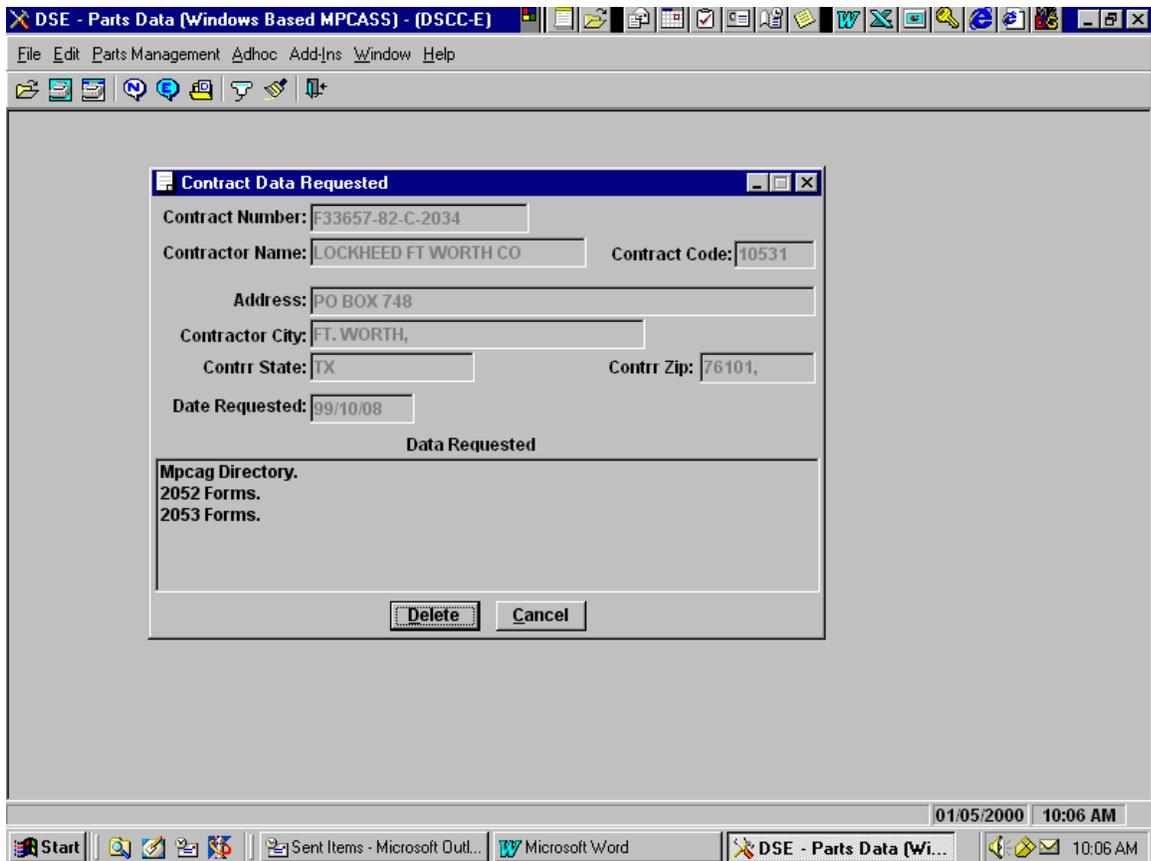

Figure 4.7.5b - CONTRACT DATA REQUESTED. INFORMATION ONLY.
b. The user is to double-click on a selection or enter number of record and click on OK. The system then provides additional information. See Figure 4.7.5b below.